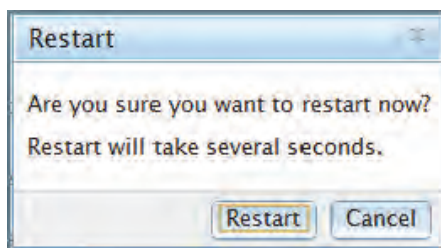

Figure 5-16. Restart Prompt
6. Wait until the **Restart** prompt message appears. See Figure 5-16.